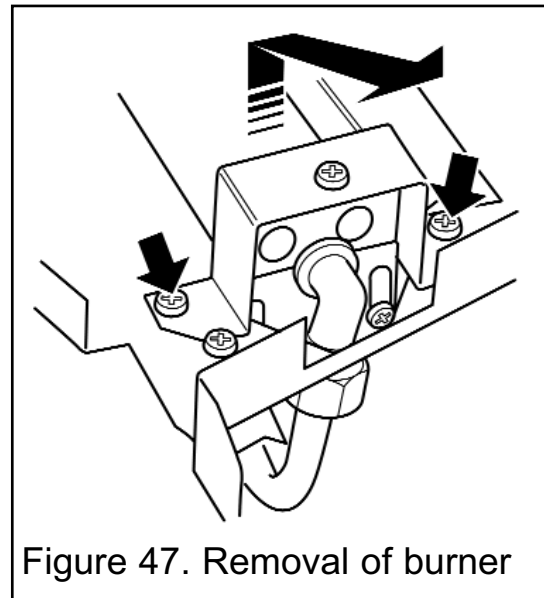

Figure 47. Removal of burner
(See figure 47).
3. Remove the two screws from the burner clamping plate (See figure 47).